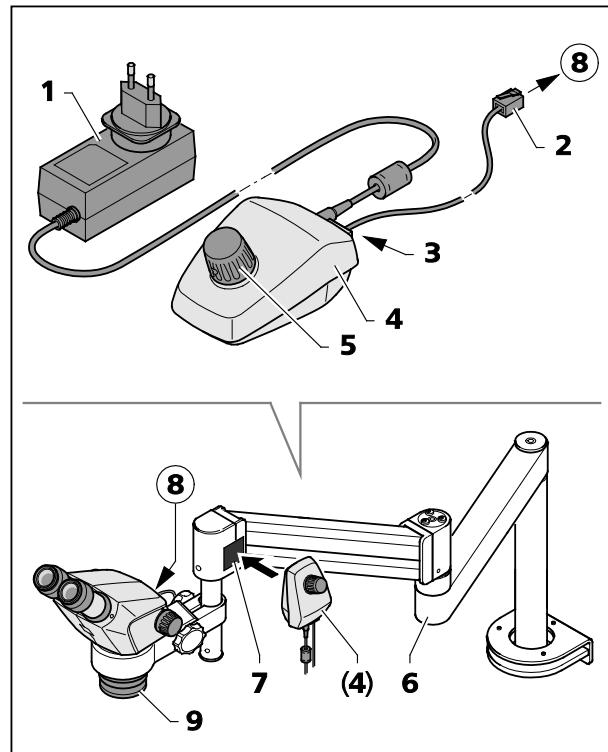

Fig. 24 Controller K LED
The controller K (Fig. 24/4) is used to activate the vertical illumination of the Stemi 305 body or the ring illuminator in case of applications with boom stands B or U or additional stands.
- Screw-fasten front lens system 0.5x/185 mm (Fig. 24/9) to the microscope body.
- When using the ring illuminator, adapt the latter to the front lens system (Fig. 24/9) using the adapter supplied with the device (ID 58 mm, OD 66 mm).
- Secure the adhesive side of the magnetic plate (Fig. 24/7) to the swivel arm stand.
- Plug the connection cable supplied with the device (1 m long) (Fig. 24/2) into the socket (Fig. 24/8) on the microscope body or the ring illuminator and into the socket (Fig. 24/3) on the back of the Controller K (Fig. 24/4).
- Place Controller K (Fig. 24/4) next to the magnetic plate (Fig. 24/7).
- Connect Controller K to the power supply using the power unit (Fig. 24/1).
- Align swivel arm stand (Fig. 24/6) to enable an ergonomic working position.
- Turn the knob (Fig. 24/5) on the Controller K to switch the vertical illuminator (or the ring illuminator) ON and adjust illumination intensity by turning the knob.